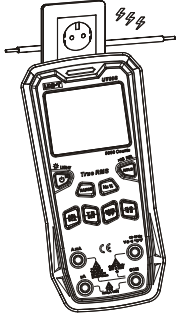

Figure 7
9. Non-Contact Voltage (NCV) Sensing (Figure 7)